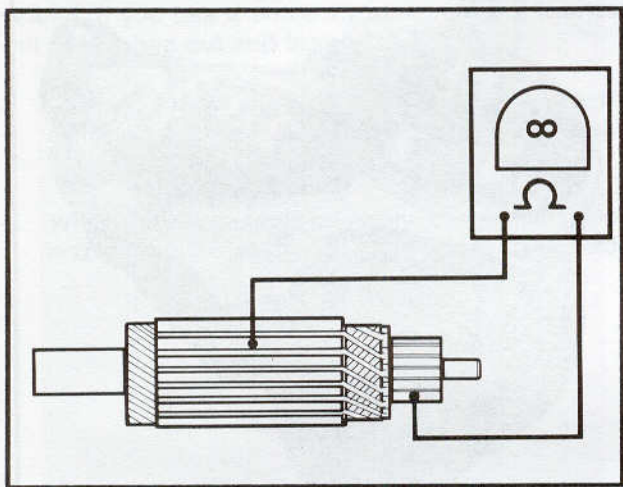

Figure 5-17. Grounded Armature Test
11. See Figure 5-17. Check for a **GROUND**ED **ARMATURE** with an ohmmeter or continuity tester. Touch one probe to any commutator segment, and the other probe to the armature core. There should be no continuity (infinite ohms). If there is any continuity the armature is grounded and should be replaced.